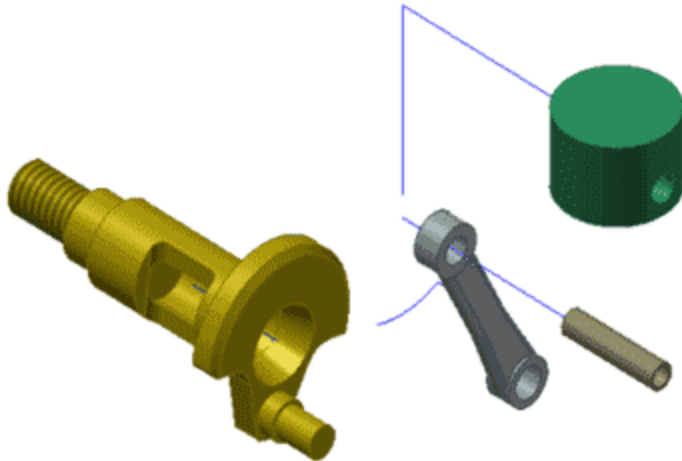

Figure 11: All tweaks added.
7. Enter 0.25 in the Transformations edit box and apply the tweak. The exploded assembly should match the one shown in Figure 11.